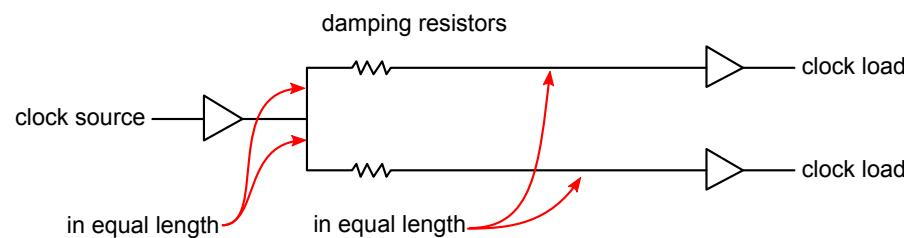

Figure 9: Series termination for multiple clock loads
- Series terminations (damping resistors) are needed for all clock signals (typically 0Ω to 47Ω). When two loads are driven by one clock signal, the series termination layout is shown in Figure 9. When multiple loads (more than two) are applied, a clock buffer solution is preferred.